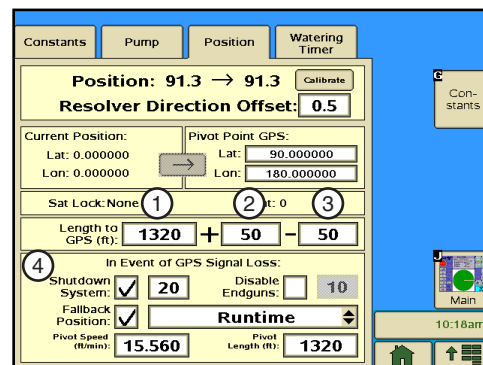

Figure 37-1 1. Length to GPS Field
1. Push **Setup, Constants, Position** to display the Position settings. Refer to Figure 37-1.
3. Using the numeric keypad, enter the length from the pivot point to the GPS antenna or GPS tower box. Do not enter the pivot length. The default is 1320 ft (402.3 m), and the range is 10 to 6554 ft (3.0 to 1997.6 m). Refer to Figure 37-1.
6. Using the numeric keypad, enter the Plus tolerance for the length from pivot point to GPS antenna. The Default is 50 ft (15.2 m) and the range is 10 to 6554 ft (3.0 to 1997.6 m). A setting of 50 ft (15.2 m) or more is recommended to allow for variation in the GPS signal if Wide Area Application Services (WAAS) is unavailable. Refer to Figure 37-1.
The GPS Signal Loss constant is used when GPS is selected as the protocol. If the machine with GPS loses a signal, or has a loss of communication, the selected GPS Signal Loss commands occur. The three command options are listed below. Refer to Figure 37-1.